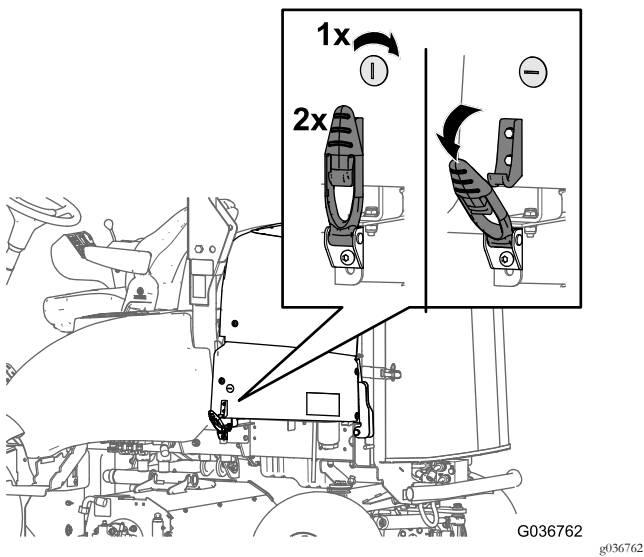

Figure 2
1. Insert the hood key into the lock for the hood and rotate the lock 90° counterclockwise (Figure 1 or Figure 2).
- **For machines with a side mounted hood latches:** remove the 2 hood latches from the latch catches (Figure 2).